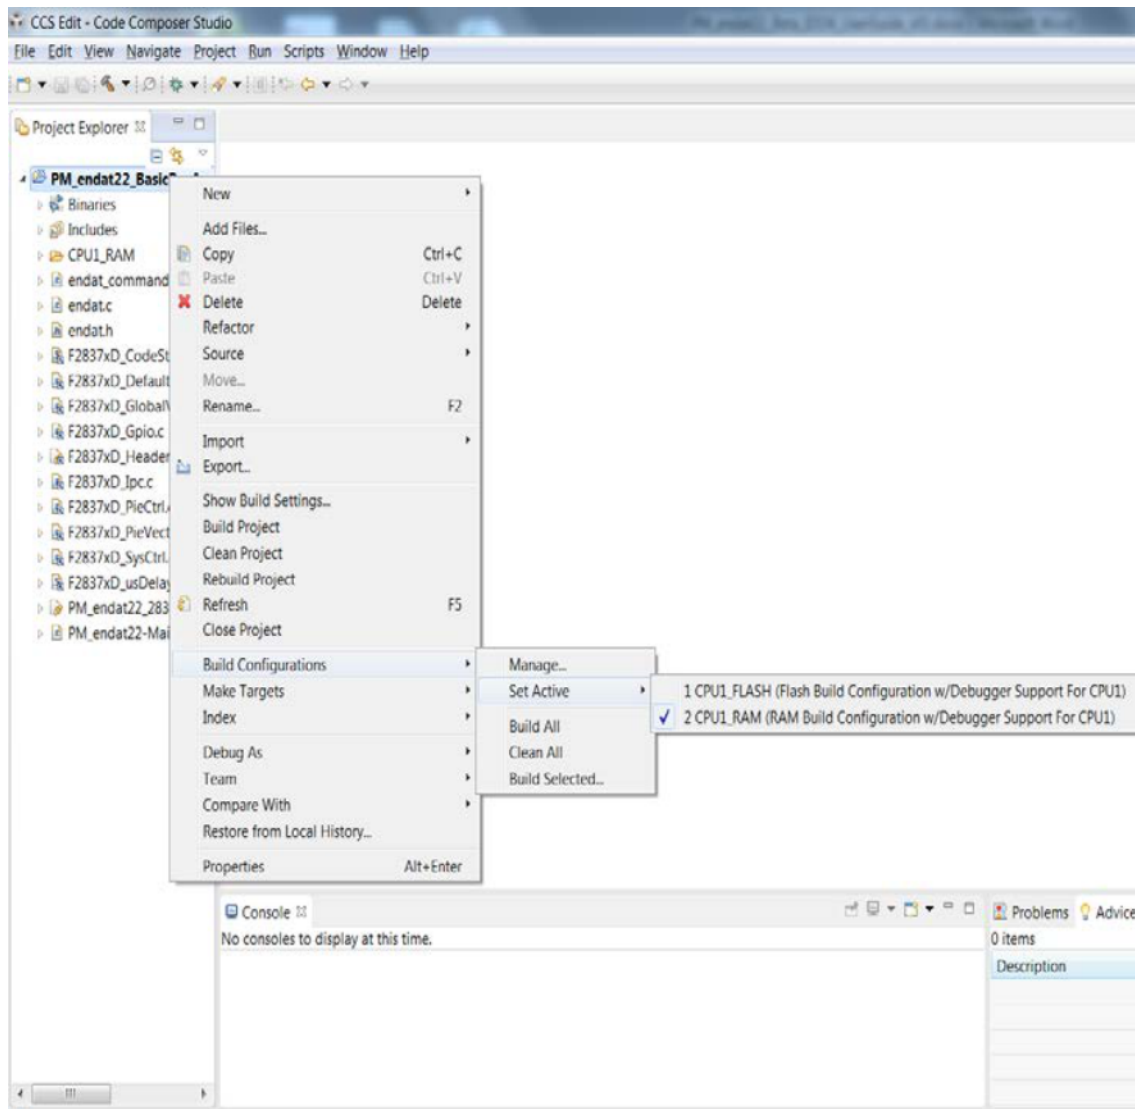

Figure 14. Selecting the F2837x_RAM Configuration
2. The project can be configured to create code and run in either Flash or RAM. You can select either of the two, however, RAM configuration is used most of the time for lab experiments and Flash configuration for production. As shown in Figure 14, right-click on an individual project and select Active Build Configuration → CPU1_RAM configuration.